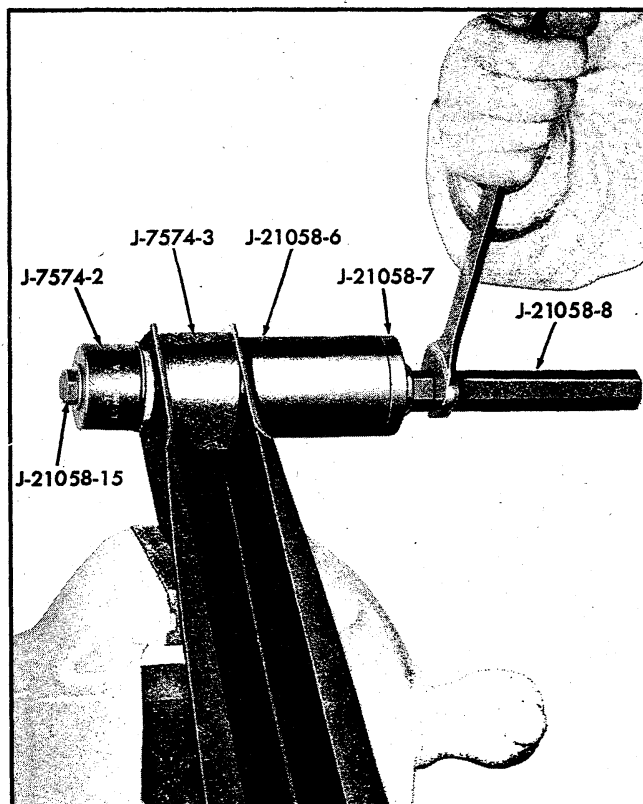

Fig. 34—Lower Control Arm Front Bushing Installation (Chevrolet)
- d. Install adapter and screw through bushing with adapter resting against flange portion of bushing. Install Receiver J-21058-6 and Bridge J-21058-7 on opposite side of control arm (fig. 34).